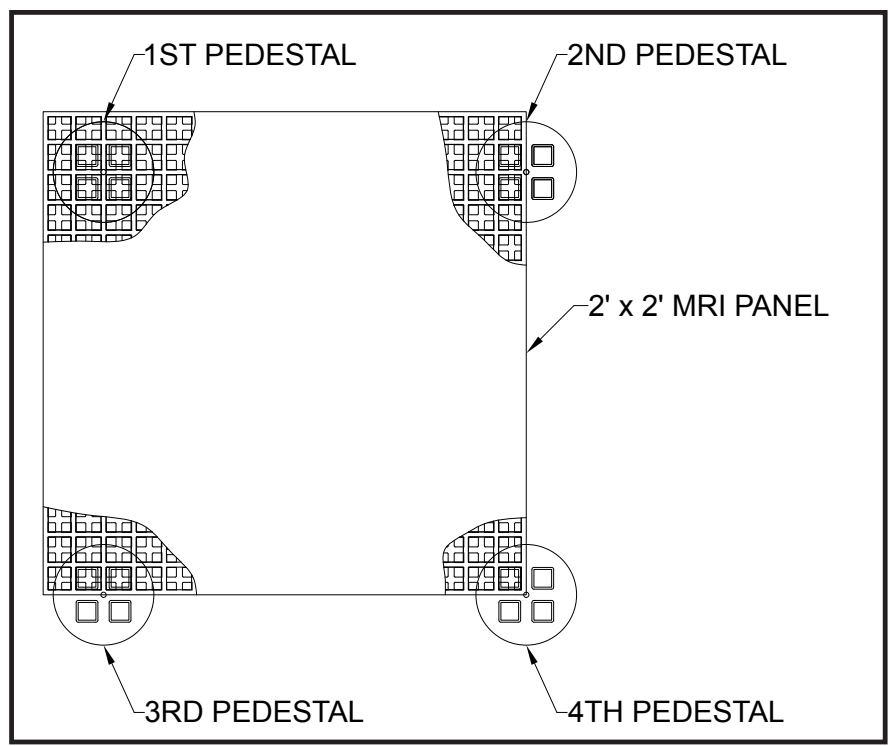

Figure 2.
3. Begin at one end of the trench by installing one MRI panel on four quad head pedestals. The pedestal in the corner will be installed one row of grating squares inside the panels edges, so the base and round top do not extend past the edge of the MRI panel. The next two pedestals will be installed on the two adjacent corners, with two of the square fittings on the top of the support pedestal inserted into the outside row of squares on the first panel. This will leave two exposed squares to support the edge of the next panel. The fourth pedestal should be installed on the last corner of the panel. This pedestal will be installed using only one of the four square fittings on the top of the pedestal (See Figure 2). Once all four pedestals are installed under the first MRI panel, the corner pedestal and the two adjacent pedestals should be adjusted by rotating the pedestal base to produce a smooth transition from the top of the MRI panel to the adjacent edge of the trench. Adjust the remaining pedestal so the panel rests uniformly on all four pedestals.